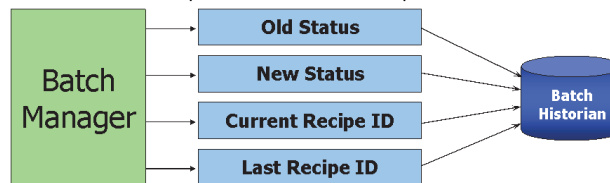

Figure 9. Equipment History
- ▶ Equipment events occur each time the status of a piece of equipment changes, and the Batch Manager captures and logs the change to the Batch Historian (refer to Figure 9). All these events are stored with the old status, new status, current recipe ID, and last recipe ID.